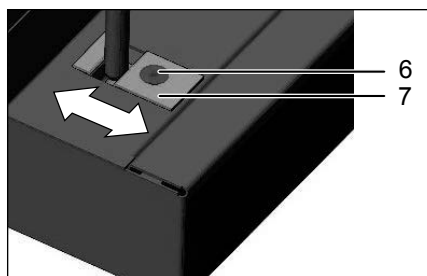

Fig. 40 Adjusting locking plate
1. Undo the headless screw (5) (with a jolting motion, as it is fixed with locking paint).
2. Adjust the door by turning the eccentric (3) with a screwdriver.
The locking plate (Fig. 40) can also be adjusted in the direction of the arrows after undoing the screw (6).
1. Undo screw (6).
2. Move locking plate (7) in direction of arrow.